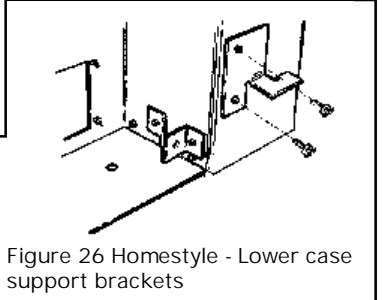

Figure 26 Homestyle - Lower case support brackets
**9.2.1** Fit the two lower case support brackets near the bottom of the convection box side flanges. Note the orientation as shown in figure 26.